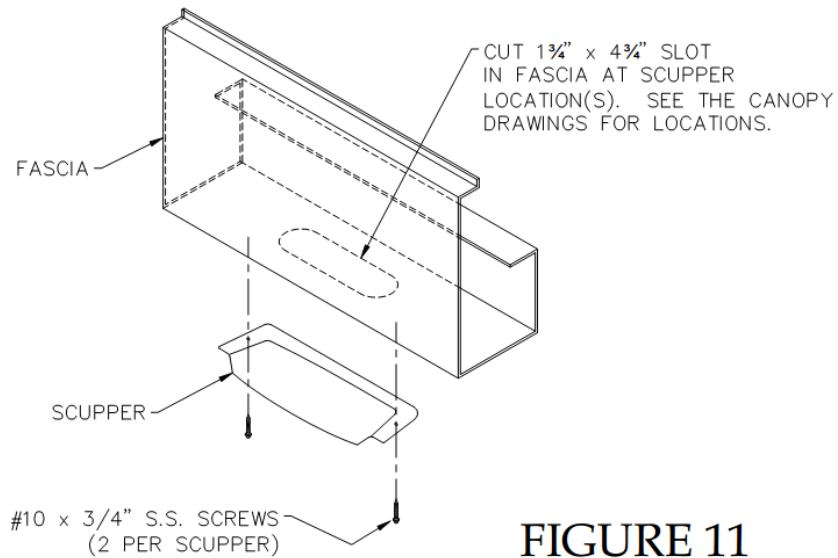

FIGURE 11
- A. Cut a slot in the center of the bottom of the fascia (Figure 11) at the location(s) of the scupper(s) as shown on the canopy drawings. Before cutting the slot, verify that the location(s) shown on the drawings allow for the scupper to be placed on the hinge side of a single door and/or directed in a direction as to miss landing on concrete walkways, building walls, etc.
- B. Attach the scupper(s) to the bottom of the fascia using (2) #10 x 3/4" SS screws (Figure 11).